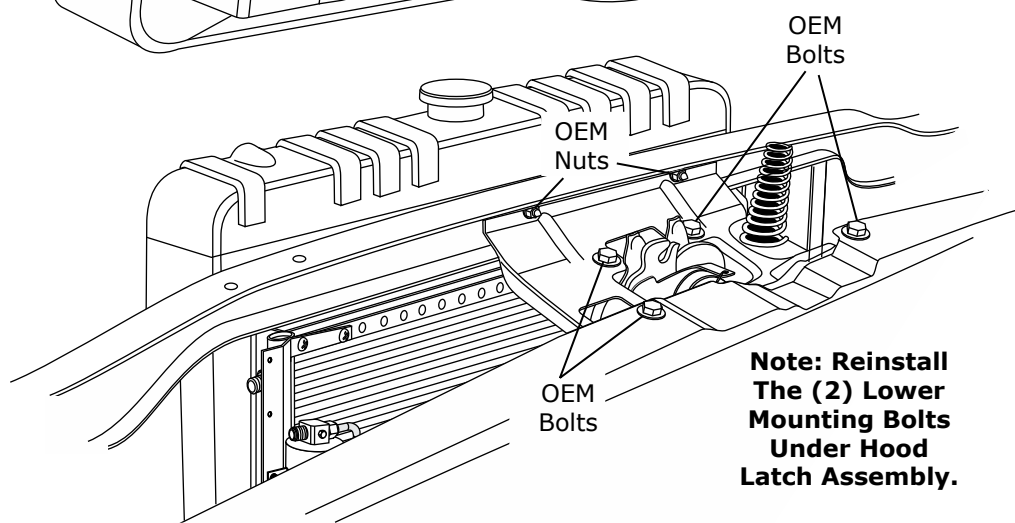

Figure 8
2. Using the OEM hardware, reinstall the hood latch assembly as shown in Figure 8, below.